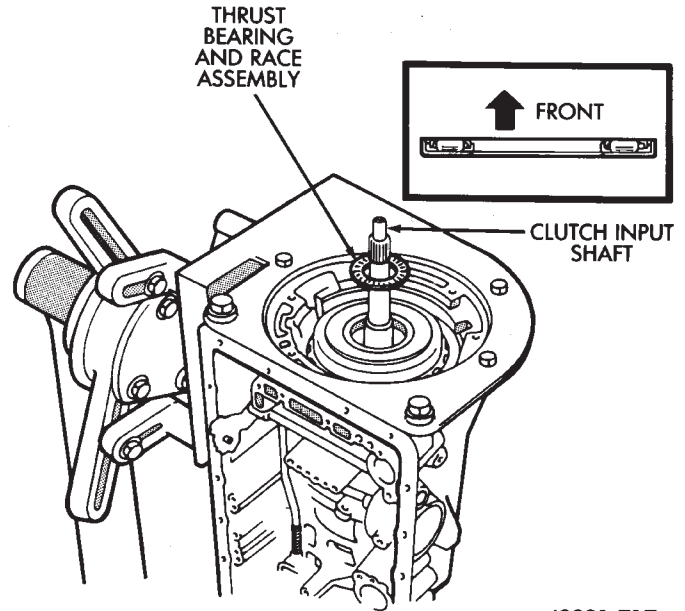

Fig. 169 Installing Input Shaft Thrust Bearing And Race Assembly
(70) Coat thrust bearing and race assembly with petroleum jelly and install it on clutch input shaft (Fig. 169). Bearing and race outer diameter is 50.2 mm (1.976 in.) and inside diameter is 28.9 mm (1.138 in.).